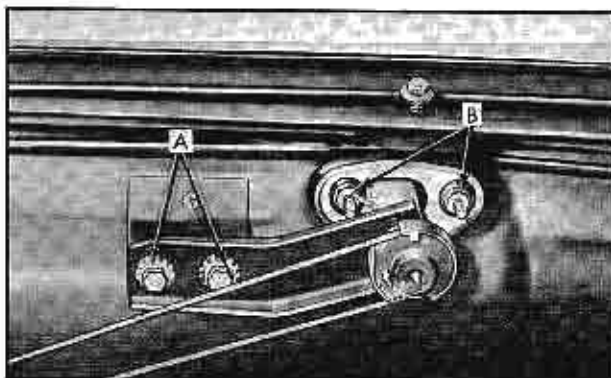

Fig. 3-6 Removal of Windshield Wiper Transmission Support
6. Remove transmission support, retained by bolts "A", shown in Fig. 3-6, Remove rubber gasket and gasket retainer plate nuts "B". Disconnect windshield washer hose, and carefully pull transmission down through duct panel and remove from body.